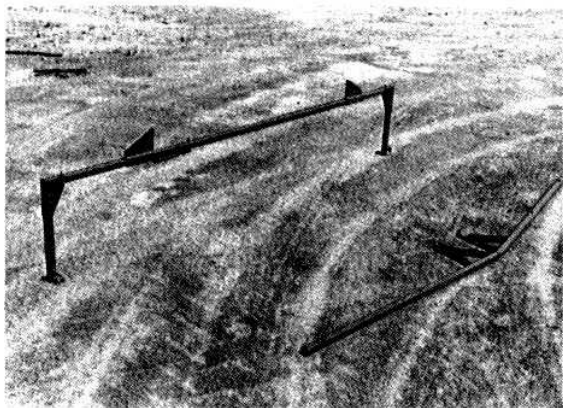

Fig. 14
4. Checking toe-in requires a special toe gauge. (See Fig. 14)